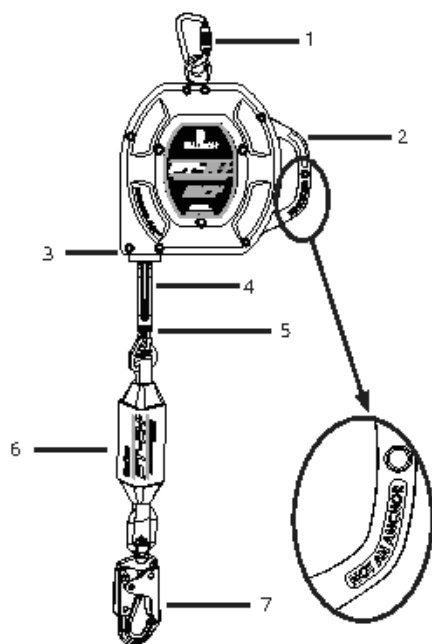

Figure 1 - About FallTech® FT-R+ Leading Edge SRL
As shown in Figure 1 below, the SRL has a glass reinforced nylon housing with an integrated handle that contains a lifeline composed of 7/32" (5.6mm) diameter galvanized steel wire rope, wound onto a spring tensioned drum. The SRL's lifeline is equipped with a cable stop/handle assembly with a bumper, integrated tearaway Energy Absorber (EA), and a steel swivel snaphook. When the user is attached, the lifeline extends and retracts with user movement, automatically maintaining a taut lifeline. If a fall occurs, a centrifugal pawl system engages, stopping the lifeline payout. The tearaway EA deploys, gradually slowing and arresting the fall.